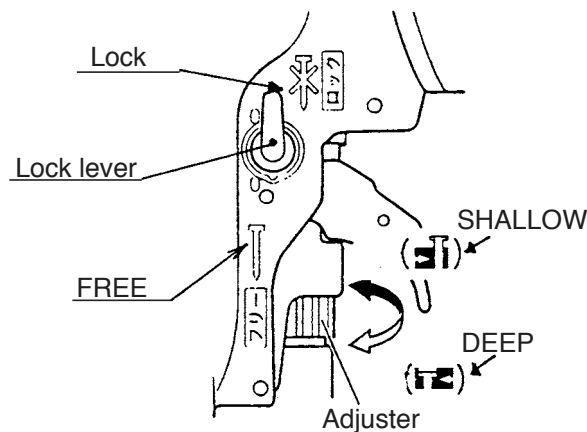

Fig. 1
* Adjusting the adjuster (Fig. 1)
- Carry out test driving. If the nails are too deep, turn the adjuster to the shallow side (SHALLOW mark). If the nail depth is too shallow, turn the adjuster to the deep side (DEEP mark) (see Figs. 1 and 2). Depth is changed 1 mm with each rotation of the adjuster.